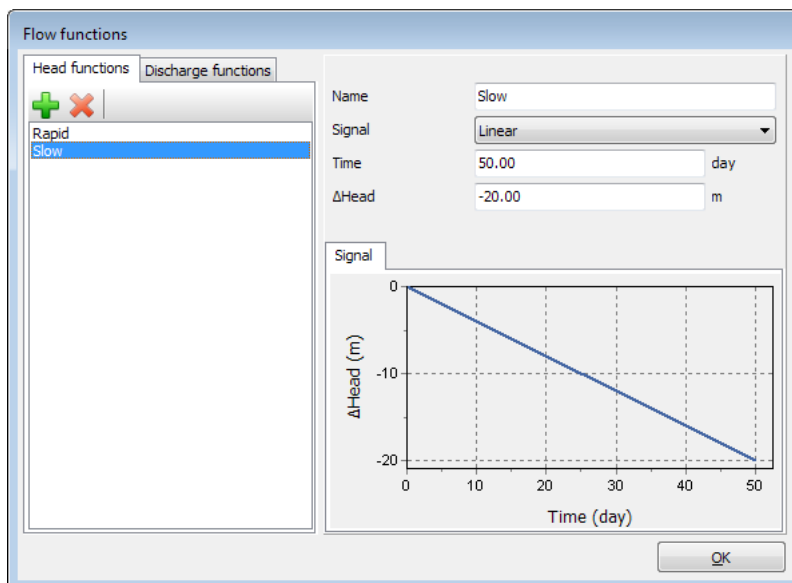

Figure 8.11 The flow function for the slow drawdown case
- Assign a value of -20 m to  $\Delta Head$ , representing the amount of the head decrease. A graph is displayed showing the defined function (Figure 8.11).